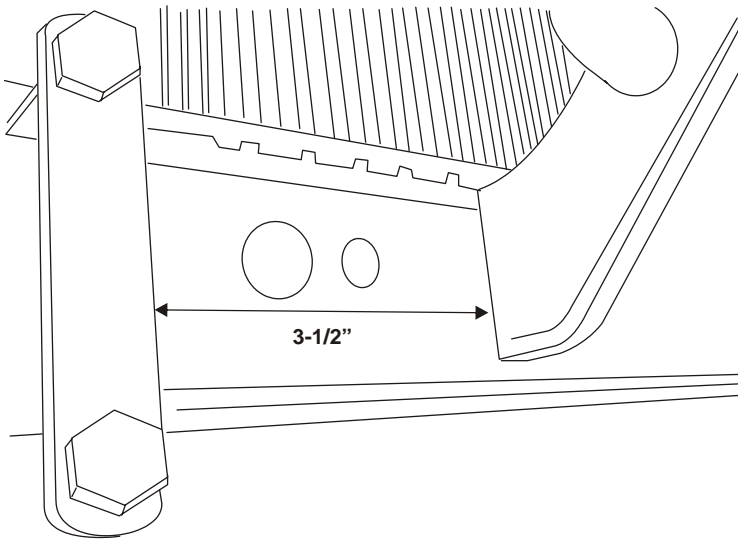

Figure 2.3
- ☐ Measure 3-1/2 inches towards the passenger side of the cross beam from the passenger side power steering cooler support bracket and place the first cooler mount bracket at this location (Figure 2.3).